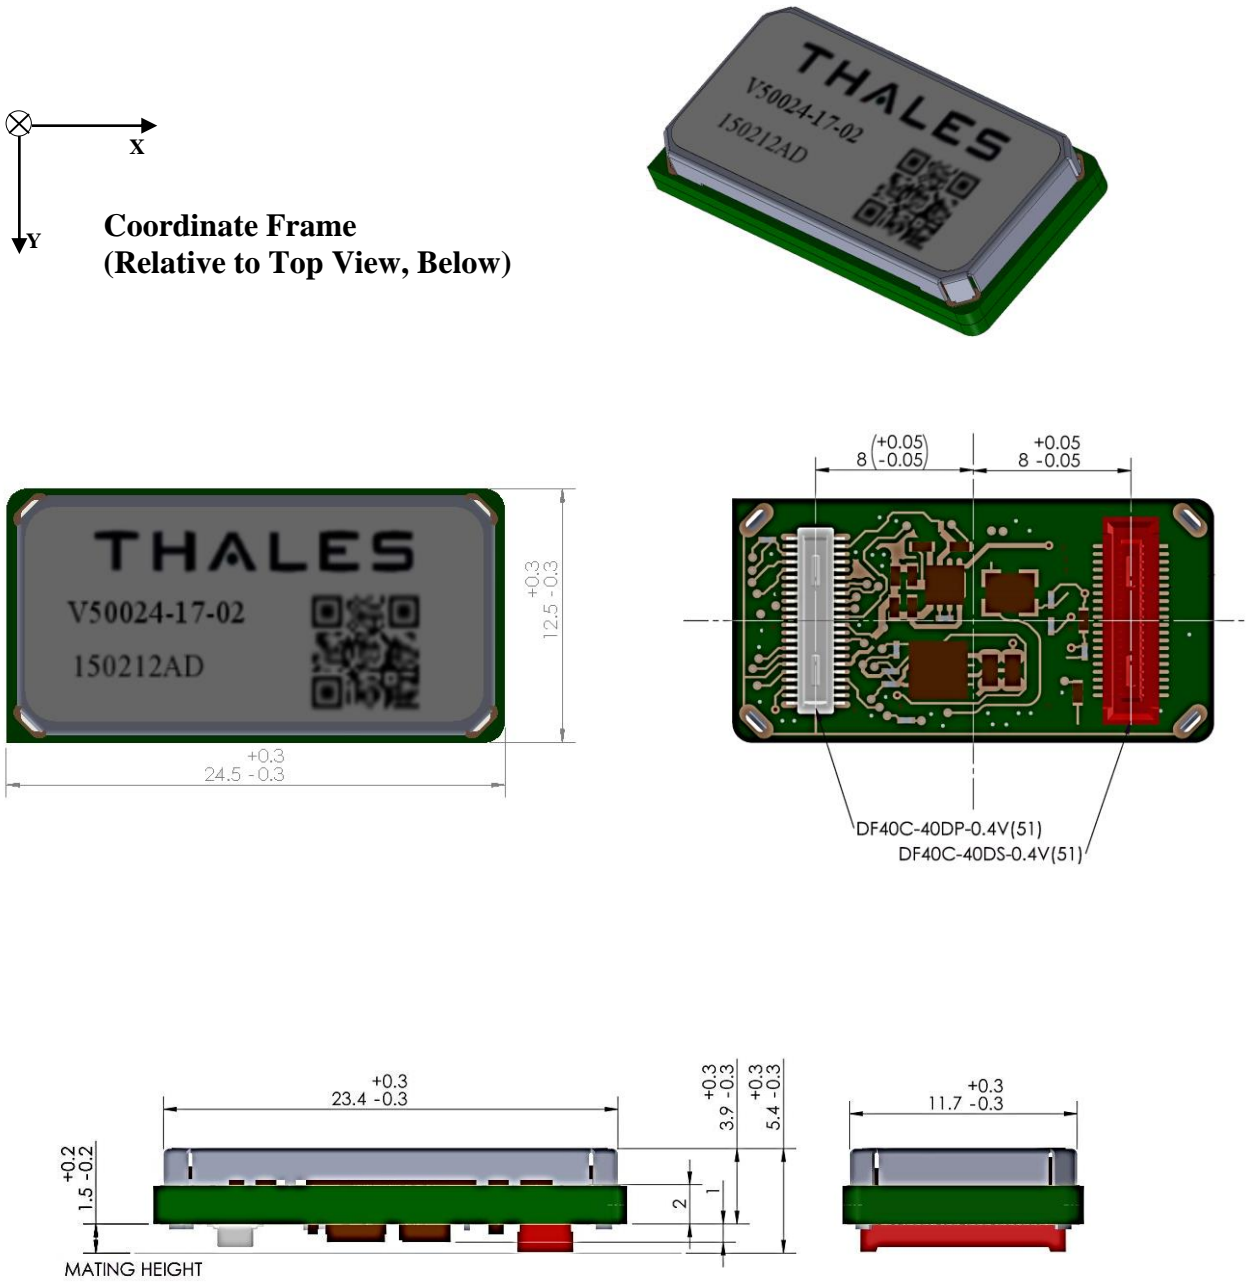

Figure 2: NavChip Mechanical dimensions
1. Refer to Figure 2: NavChip Mechanical Dimensions for clearances required for proper mounting.